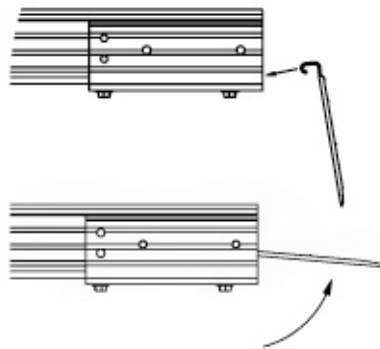

FIG. 15
- 3.2 Install a transition plate into each end of the ramp section(s) by turning the section(s) over, then inserting as shown in FIG. 15.